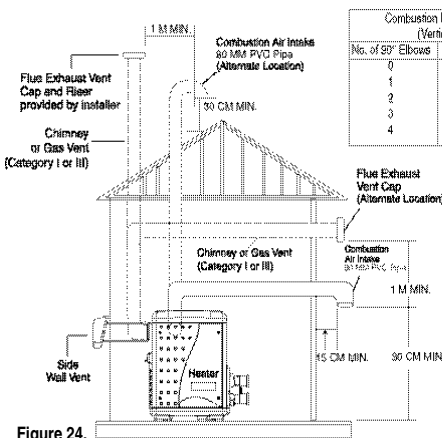

Figure 24.
For indoor heater installations where combustion air supply might be insufficient, the MasterTemp Heater is certified for a direct air intake duct using a 76 mm (3 in - UK) PVC pipe (Pentair P/N 461031). If outside air is drawn through the PVC duct directly into the heater, the PVC pipe can be installed in accordance with the following requirements: The air intake opening MUST be installed at least 30.5 cm (12 in) above the roof line or normal snow levels for free air flow. The Category I or III exhaust vent termination cap must have at least 1.8 m (6 ft.) minimum vertical clearance from air intake duct. (See Figure 24).
- Connect wires between the Fireman's Switch terminals on the heater and the relay. Connect wires from the controller or timer to the Fireman's Switch. Controller, timer or relay should be sized to handle 24VAC at 0.5 Amp (because it will be completing the 24VAC control board circuit on the heater as shown in Figure 24). DO NOT apply line voltage to the Fireman's Switch terminals. Use 18 gauge wire with a minimum 1.2 mm (3/64 in.) thick insulation rated for a temperature rise of at least 105° C.